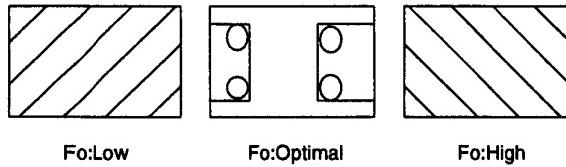

Fig.5-2
5. Adjust **60 H-FREQ** so that the slanting lines on the screen will be vertical. (Fig.5-2)
7. Adjust **50 H-FREQ** so that the slanting lines on the screen will be vertical. (Fig.5-2)